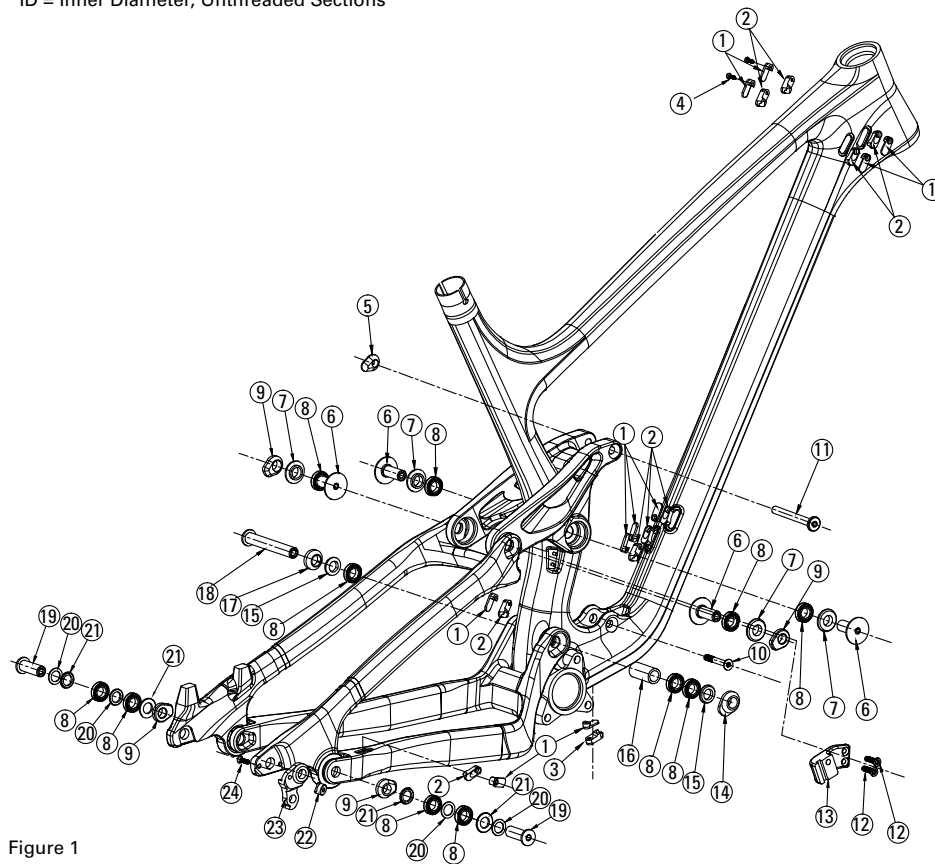

Figure 1
NOTE 1: Replacement bearings are NOT included in this kit. Replacement bearings must be purchased separately. For information regarding bearing size refer to Figure 1 on the following pages.
NOTE 2: A replacement derailleur hanger and replacement housing guides are NOT included in this kit. The items are available separately. See Figure 1 for more details.
See Tools column in the table of Figure 1.
- Review Figure 1 and the accompanying table. Details regarding the tools and consumables (grease, thread lock) required to properly service the pivots of the Heller 4-Bar frame can be found in these exploded views and the accompanying tables. Do not attempt to service the frame pivots if you lack any of these tools or supplies.